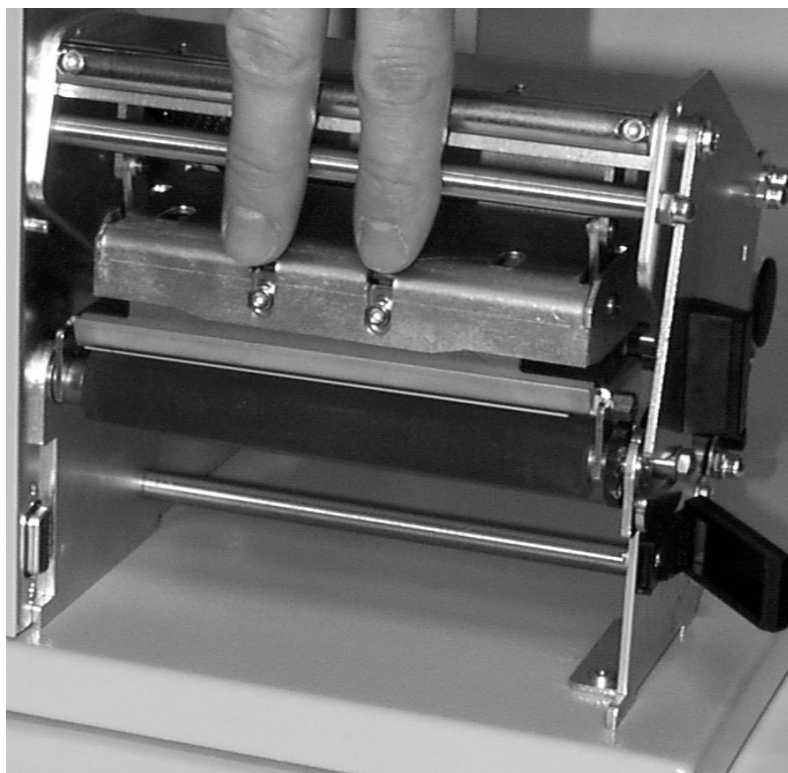

Fig. 8 – Front guide markers on the print head
- Push the print head in and match the two markers on the top of the print head with the guide holes on the print head group (see Fig. 8).